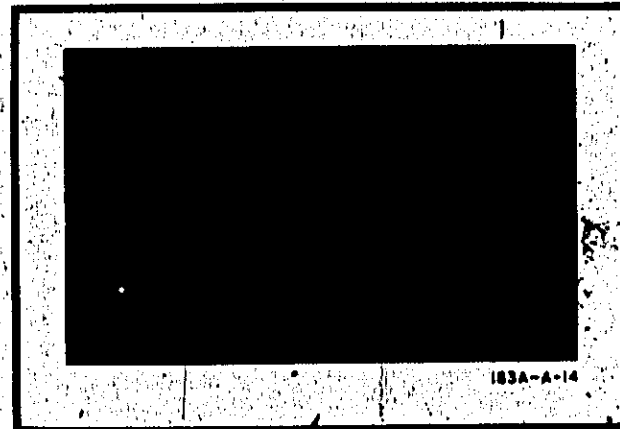

Figure 3-3. Scale Illumination, Pulsed Floodgun Mode (Transient Photography)
h. Check the fog level on the film for a medium gray background as illustrated in Figure 3-3. If necessary, readjust the scale control for proper post fogging on the film. Counterclockwise rotation gives a darker background.